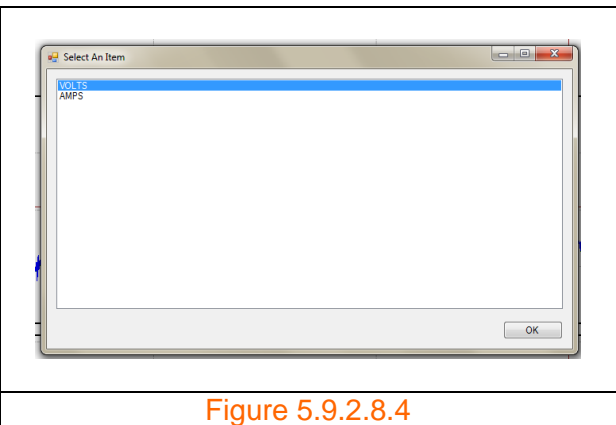

Figure 5.9.2.8.4
Step 3: For example select 'VOLTS' click 'OK' as shown in figure 5.9.2.8.4. The input box as shown in figure 5.9.2.8.5 appears.